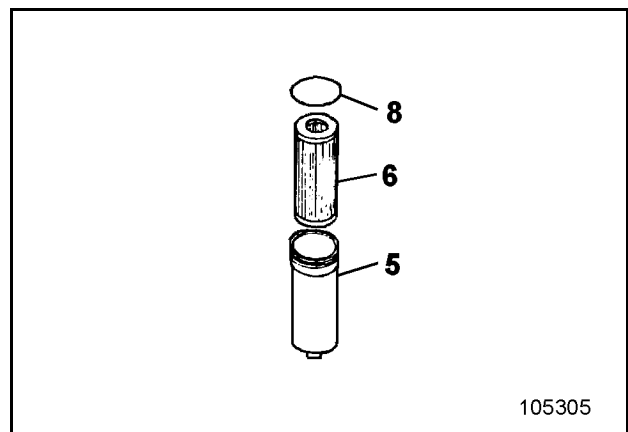

Fig. 3-50:
- Unscrew filter housing (5, Fig. 3-50:).
- Withdraw filter element (6) from filter housing (5).
- Clean filter housing (5) and the sealing face at the filter head with white spirit or paraffin oil.
- Check seals (8) and replace, if required.
- Insert new filter element into filter housing (5) and refit to the filter head with new, lightly oiled sealing ring (8).